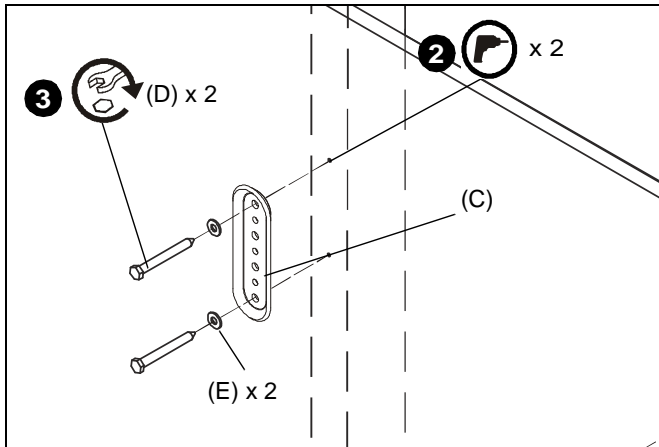

Figure 1
2. Using wall bracket (C) as a template, drill two 1/8" pilot holes through top and bottom holes of wall bracket (C) into wall structure. (See Figure 1)
3. Using Phillips screwdriver, install two 1/4" x 2 1/2" hex head lag screws (D) through 1/4" washers (E), wall bracket (C) and drywall into wood stud. Ensure bracket (C) is vertical, then tighten screws (D). (See Figure 1)